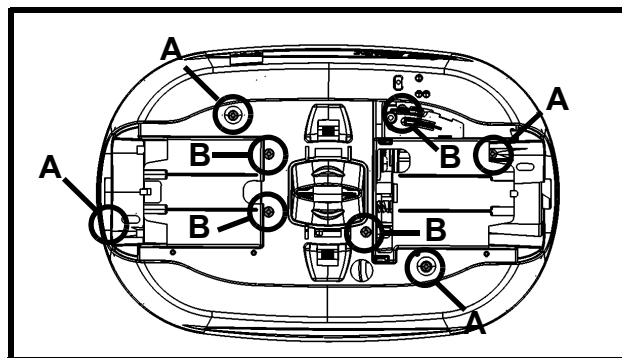

Fig. 33
- 5) Replace the 8 screws to fix the shell in place, use the long screws for plastic (a) and the shorter ones for metal (b) (see Fig. 33).